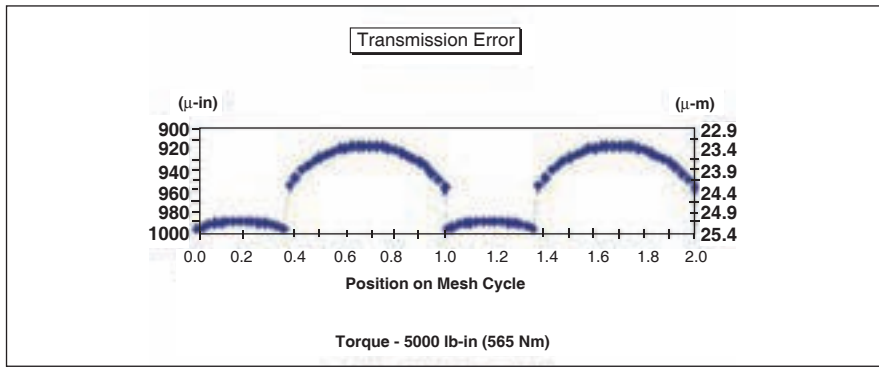

Figure 4—Transmission deviation of a perfect involute with 5,000 lb-in torque.
Step 3. Identify the maximum tooth deflection, the value of which is then used as a guideline in selecting the values of tip and root relief. This deflection, which may be taken from the transmission error plot of Figure 4, is about 0.001 inch.